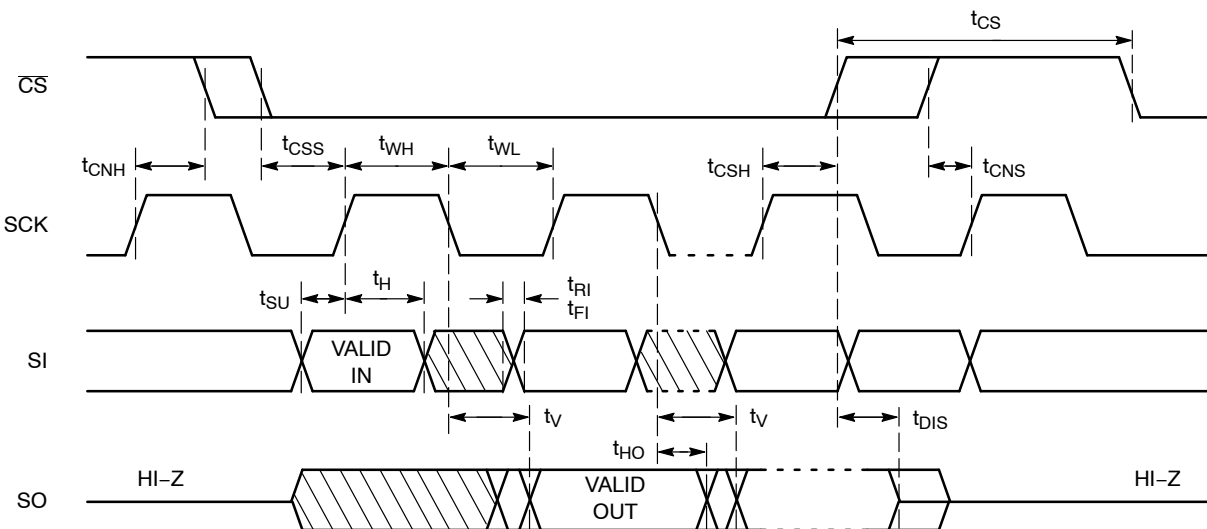

Figure 2. Synchronous Data Timing
9. All Chip Select (CS) timing parameters are defined relative to the positive clock edge (Figure 2). tCSH timing specification is valid for die revision D and higher. The die revision D is identified by letter “D” or a dedicated marking code on top of the package. For previous product revision (Rev.C) the tCSH is defined relative to the negative clock edge.
After a high to low transition on the  $\overline{\text{CS}}$  input pin, the CAT25128 will accept any one of the six instruction op-codes listed in Table 10 and will ignore all other possible 8-bit combinations. The communication protocol follows the timing from Figure 2.